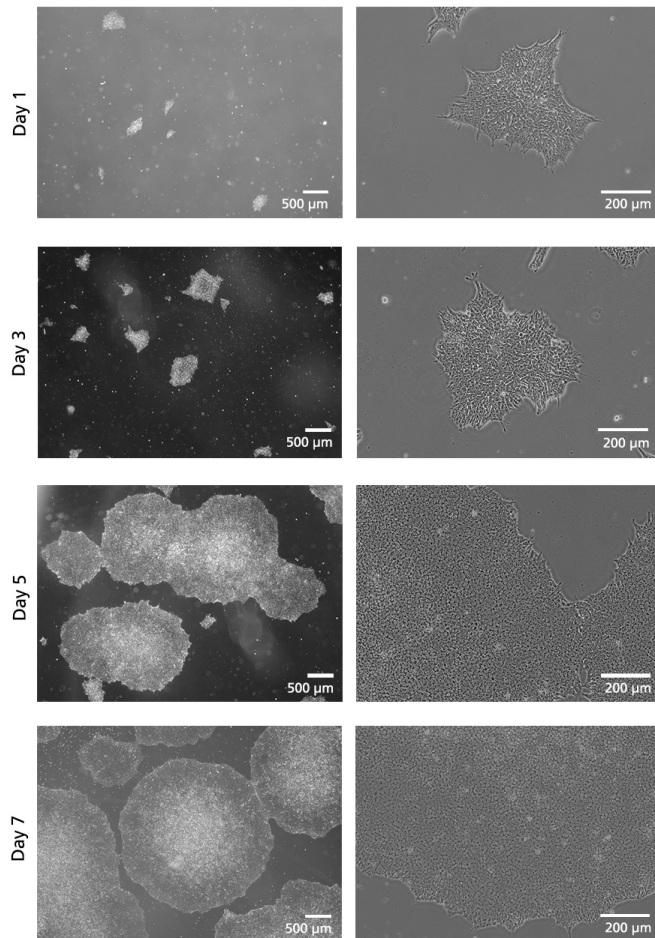

Figure 1. Recovery of SCTi005-A iPSCs on Days 1 - 7 After Thaw
13. Perform medium changes as desired using mTeSR™ Plus and visually assess cultures daily to monitor growth and morphology. See Figure 1 for expected growth characteristics during the first seven days after thawing. Medium can be changed daily, every other day, or up to two consecutive days of feeding can be skipped when using mTeSR™ Plus. To skip two consecutive days of feeding, add twice the volume of medium.